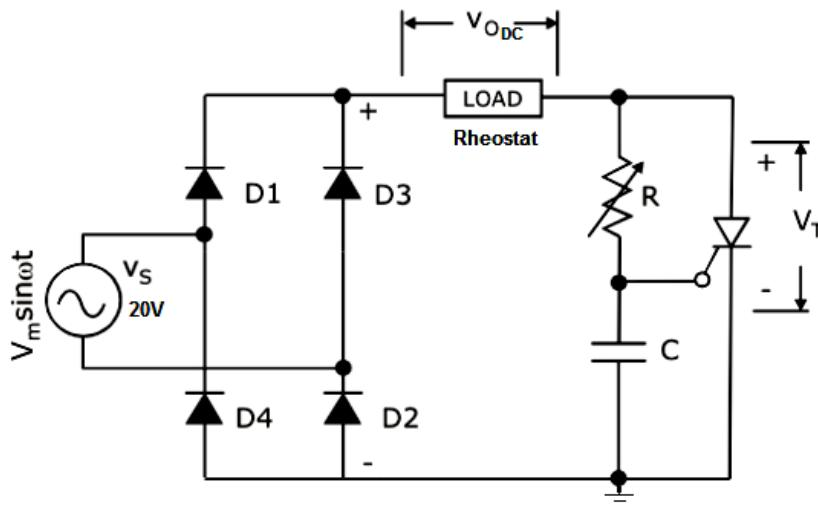

Fig.5.3
1. Connections are made as shown in circuit diagram- (fig.5.3).